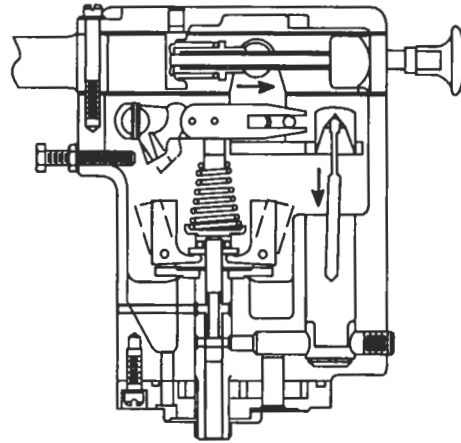

Figure 6. Position of Governor Mechanisms as Load Decreases and Engine Speed Tends to Increase
10. The governor reaction as the load on the engine is decreased and the engine speed increases is shown in Figure 6.